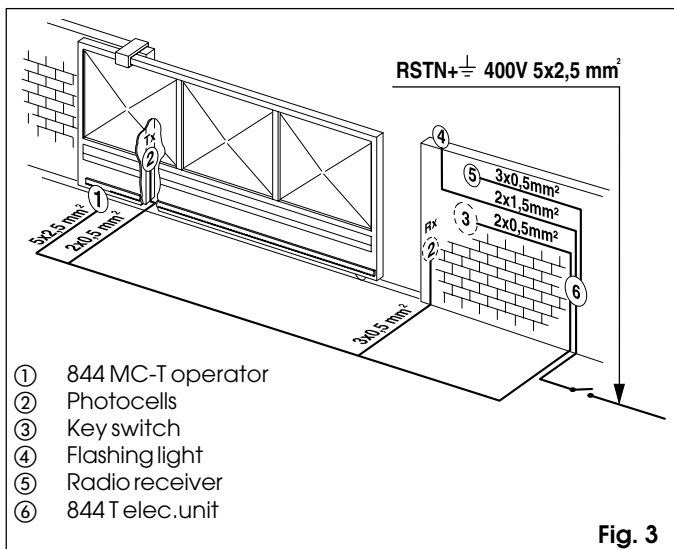

Fig. 3
- 4) Lay the electrical cables for connection to the accessories and power supply as in Fig.3.
Observing the instructions in Fig.3, lay the raceways and make the electrical connections of the 844 T electronic unit to the selected accessories.